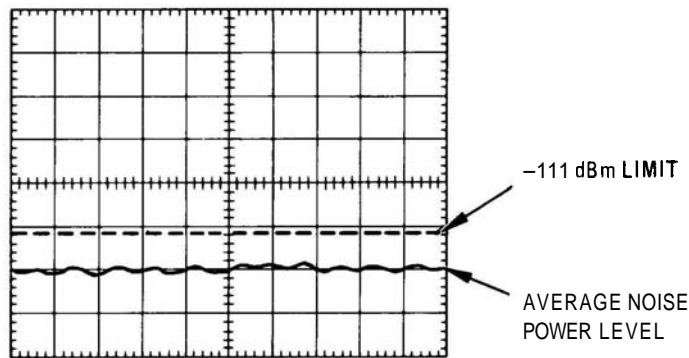

FIGURE 4-13. AVERAGE NOISE LEVEL MEASUREMENT, .01 - 3 GHz
5. Measure average noise level displayed on CRT (see Figure 4-13) and record results in Table 4-5.